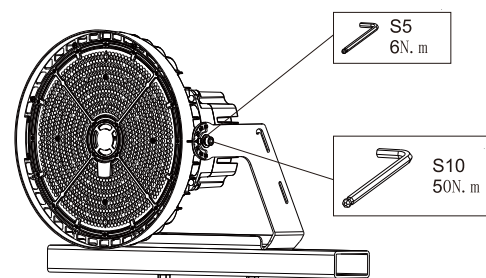

Figure 4
4. Use an open-end wrench and hex wrench to loosen the adjustment screw used to adjust the angle. (Figure 4)